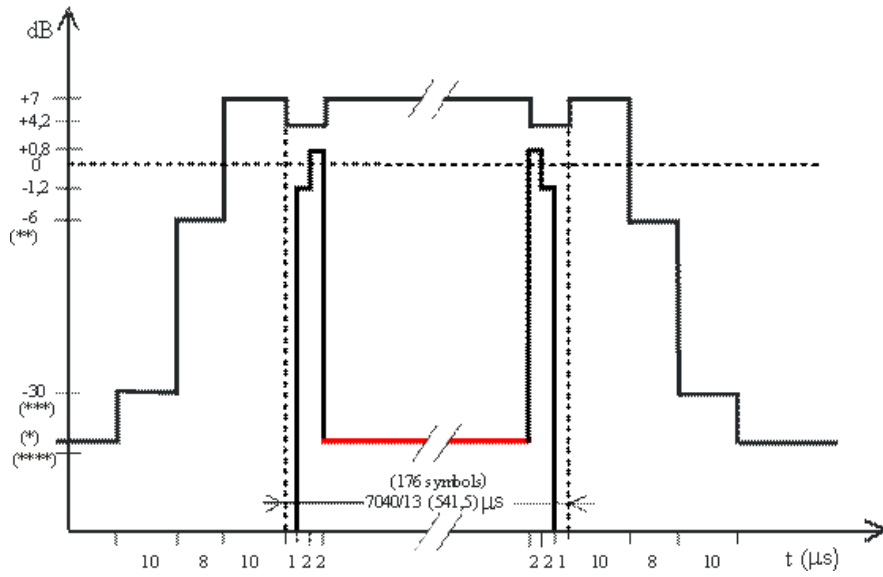

Figure 2 0-2 Time mask for higher symbol rate bursts (HB) at 16-QAM and 32-QAM modulation with narrow pulse shaping filter
According to the Standards, the lower limit within the useful part for higher symbol rate bursts (HB) is seen as undefined for 16-QAM and 32-QAM. The lower limit (red in the Figure 2) is set to -200 by default. This command allows you to set the lower limit as you like. Only SCPI remote command is supported. Note that the lower limit is shared in the BTS and MS modes and in the narrow and wide pulse shaping filter modes.